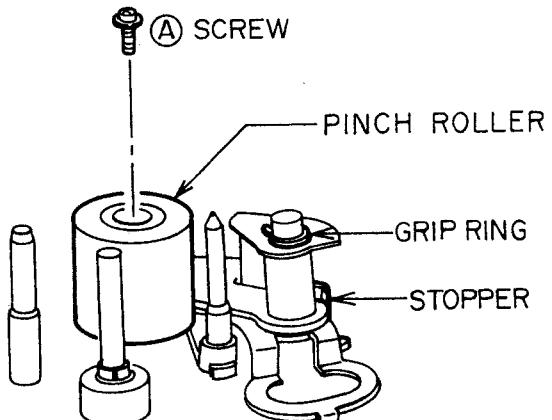

Fig. 3-17
- 1) Remove the \textcircled{A} screw, then remove the PINCH ROLLER part, as shown in fig. 3-17